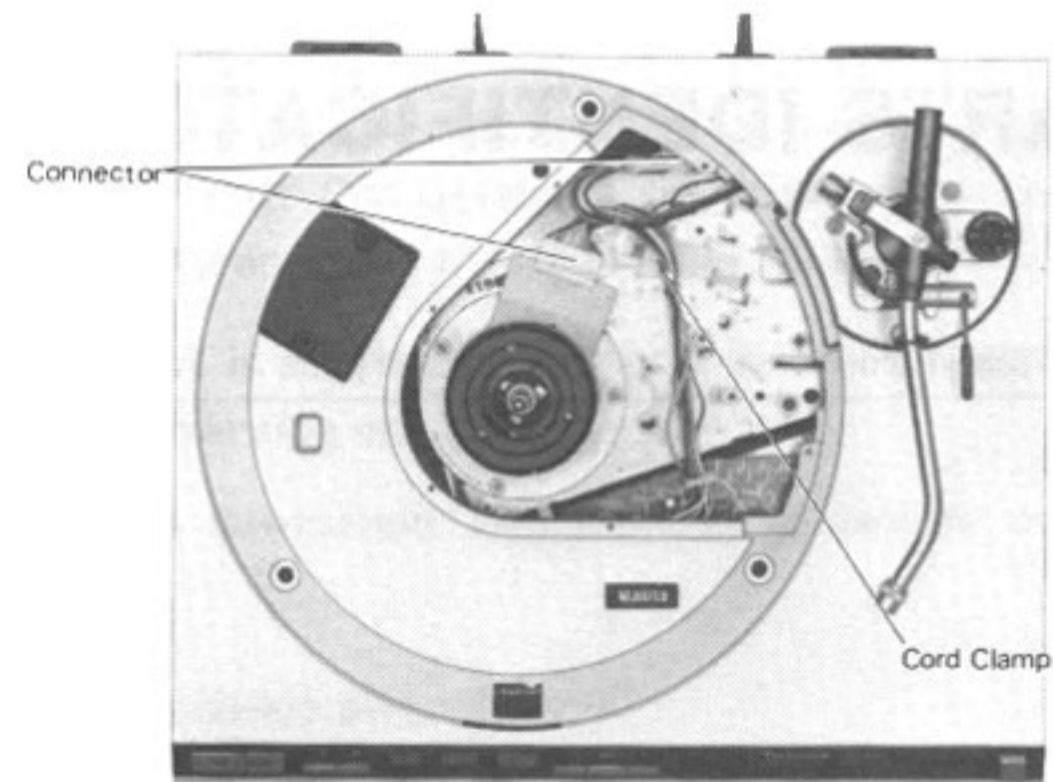

Fig. 9
11. Unplug the 2 plug-in connectors and 1 cord clamp (Fig. 9).